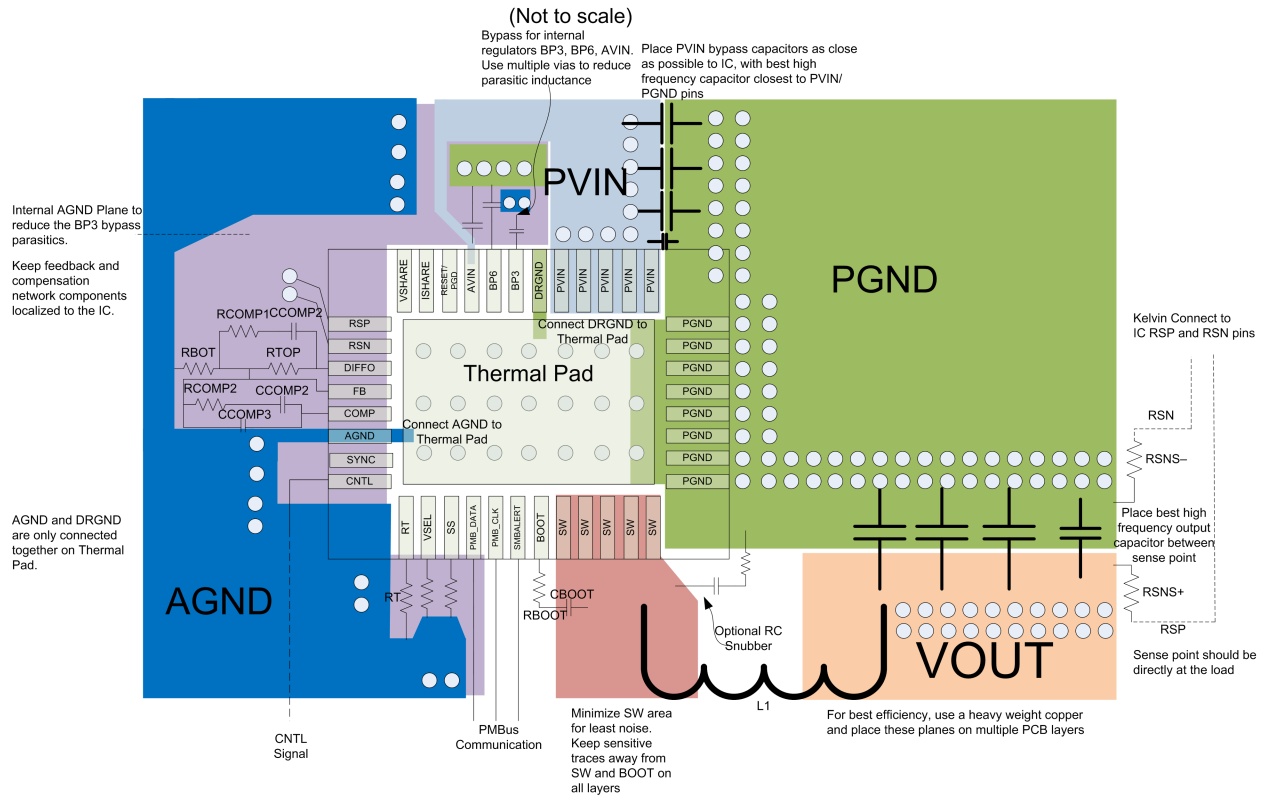

Figure 52. PCB Layout Recommendation
Layout is critical for good power-supply design. Figure 52 shows the recommended PCB-layout configuration. A list of PCB layout considerations using these devices is listed as follows:
- Keep signal components local to the device, and place them as close as possible to the pins to which they are connected. These components include the feedback resistors and the RT resistor. These components should also be kept away from fast switching voltage and current paths. Those components can be terminated to AGND with a minimum return loop or bypassed to the copper area of a separate low-impedance analog ground (AGND) that is isolated from fast switching voltages and current paths and has single connection to PGND on the thermal pad through the AGND pin. For placement recommendations, see Figure 52.
- The PVIN and AVIN pins must be the same potential for accurate short circuit protection, but high-frequency switching noise on the AVIN pin can degrade performance. The AVIN pin should be connected to PVIN through a trace from the input copper area. Optionally form a small low-pass R-C between the PVIN and AVIN pins, with the AVIN bypass capacitor (1 μ F) and a 0-2 Ω resistor between the PVIN and AVIN pins. See Figure 52 for placement recommendations.